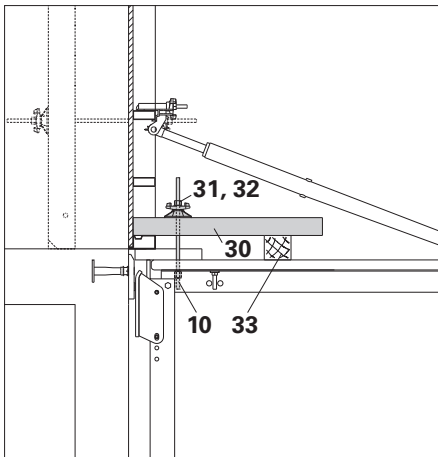

Fig. B2.04a
1. Place timber (33) underneath and tension the formwork element with Waler 85 (30), Tie Rod 15 (31) and Wingnut Pivot Plate DW 15 (32) against the Multi-Purpose Connector (10). (Fig. B2.04a)